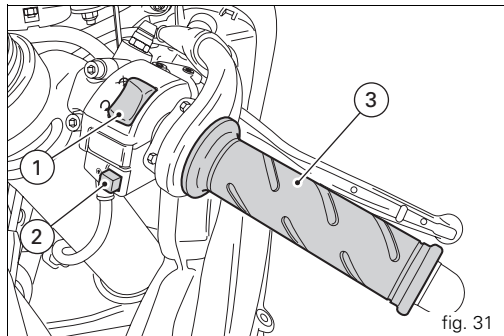

fig. 31
1) if the code is recognised, the protection system releases the engine lock. When you press the START (2, fig. 31) button, the engine will start up.
Right-hand handlebar switch (fig. 31)
Throttle twistgrip (fig. 31)